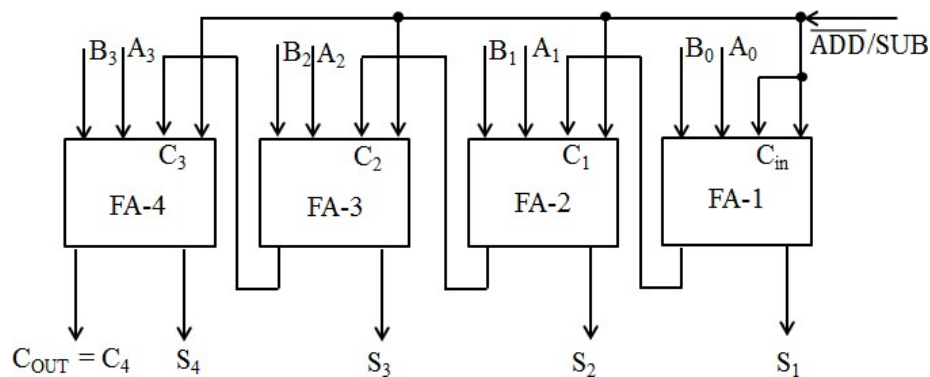

Fig. 2.1: Logic diagram of Parallel Adder
1. Connections are made as shown in the circuit diagram of Fig. 2.1.
1. Connections are made as shown in the circuit diagram of Fig. 2.1